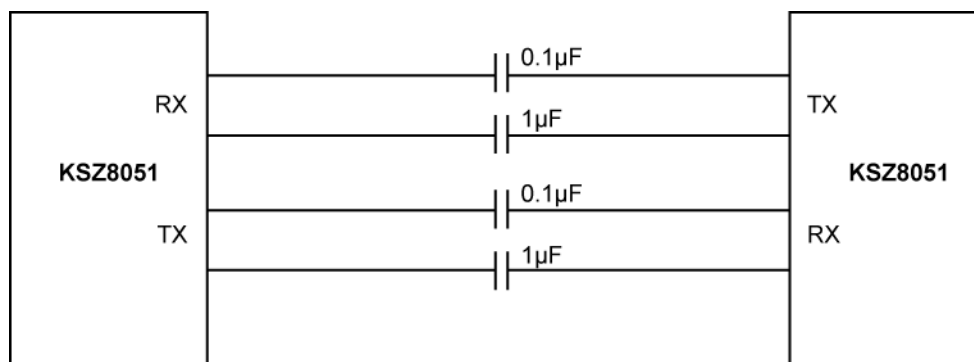

Figure 6. KSZ8051 Capacitive (AC) Coupling for Copper Ports
Figure 6 illustrates the capacitive (AC) coupling for the KSZ8051 family PHY transceivers.